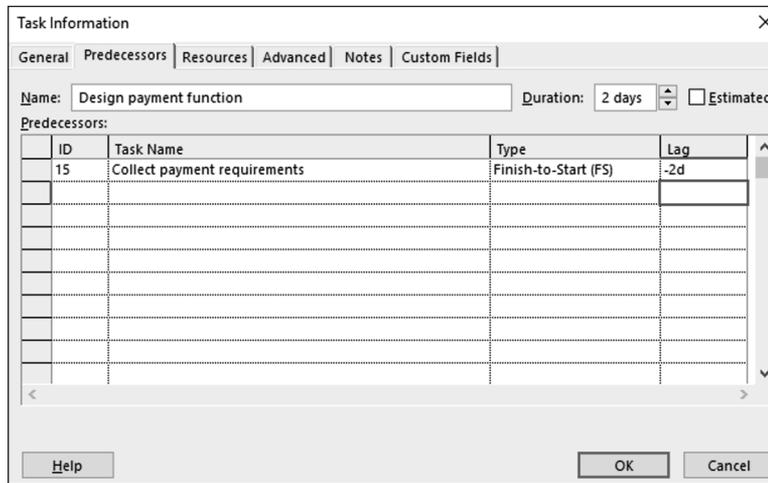

FIGURE 17-8:
- » **Adjust dependencies.** Perhaps the revision of a training manual can start a few days before *all* the feedback is returned. Or perhaps the electrical and plumbing chores can take place at the same time rather than one after the other (assuming that the electrician and the plumber can stay out of each other's way). Use the Predecessors tab in the Task Information dialog box, shown in Figure 17-8, to modify dependencies. In the Lag column, you can enter a negative number to allow tasks to overlap.